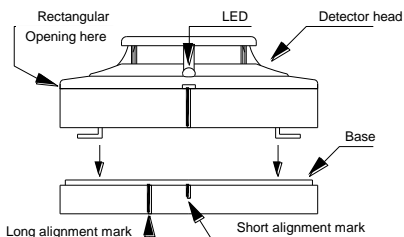

Figure 4. Placing the detector head onto base
- Align the alignment mark on the detector head to the short alignment mark on the base as shown in Figure 4.